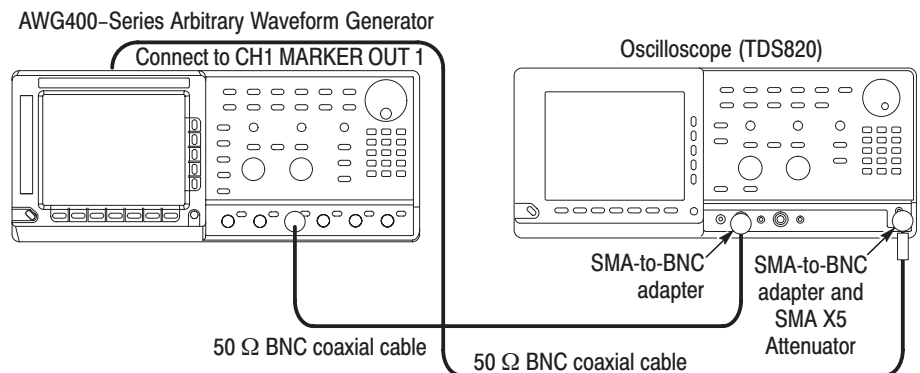

Figure 5-9: Channel skew test hookup for CH2 (2)
12. Disconnect the cable connected to CH1 output of AWG400, and connect it to CH2 output of AWG400 (see Figure 5-9).